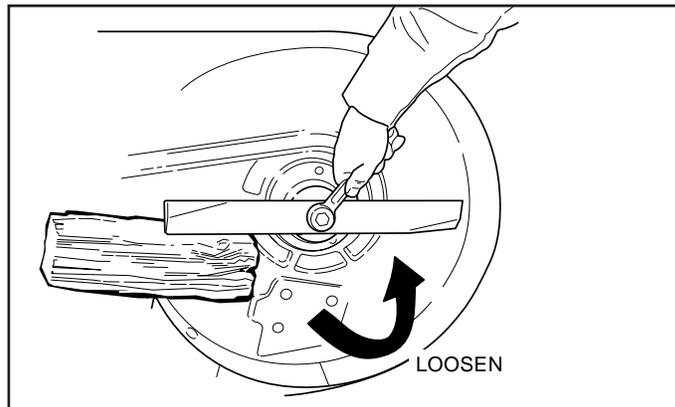

Figure 20
2. To remove blade, use a block of wood to prevent blade rotation while loosening the capscrew (see Figure 20).